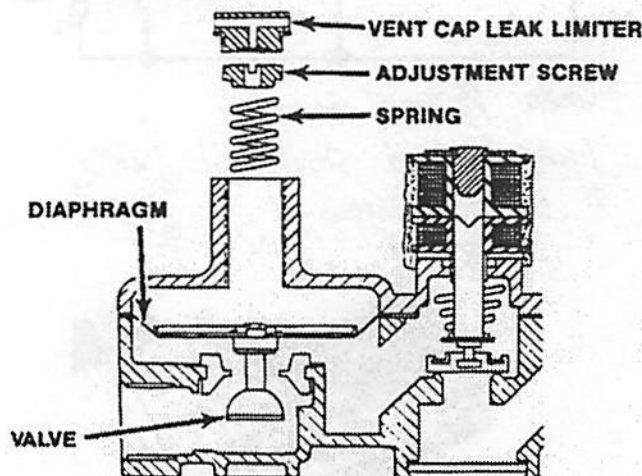

Fig. 24. Gas pressure regulator.
- The Adjustment Screw—for adjusting the spring pressure. See Figure 24.